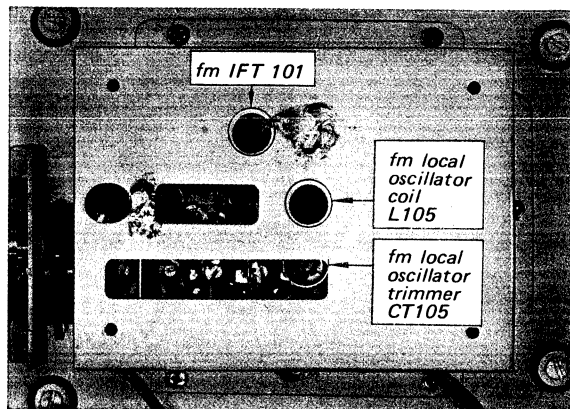
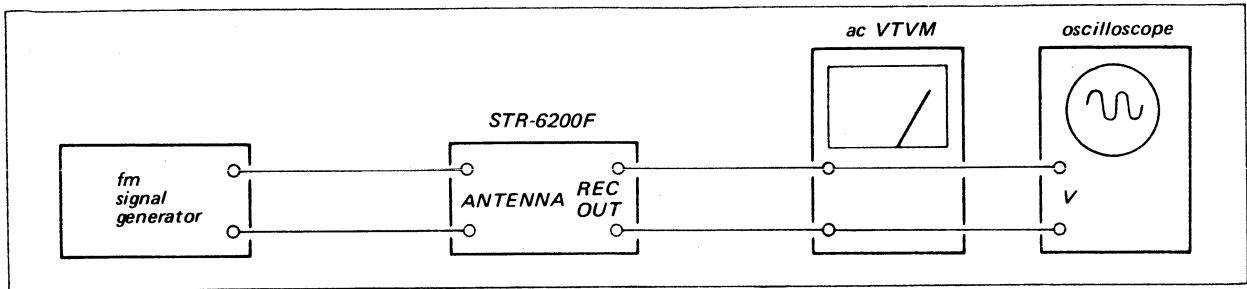

Fig. 3-3 Parts location
Fig. 3-4 Fm i-f, discriminator, muting and front end alignment test setup
1. With the equipment connected as shown in Fig. 3-4, set the signal-generator's controls as follows:
- FUNCTION (2) switch FM
3. Precisely tune the set to the SSG's carrier frequency then turn the core of transformer IFT101 and primary side of discriminator transformer IFT301 (bottom core) (see Figs. 3-3 and 3-6) with the alignment tool to obtain maximum output.
3. Connect the equipment as shown in Fig. 3-4.
2. Check the dial scale for a calibration accuracy of ± 100 kHz from the carrier frequency of the station. If the dial-accuracy deviation exceeds this limit, turn the local-oscillator coil L105 slightly as shown in Fig. 3-3 until optimum dial calibration is obtained.
3. Tune the receiver to the highest-frequency station in your locality. If the dial-calibration error is excessive, adjust local-oscillator trimmer CT105 (see Fig. 3-3) to obtain maximum calibration accuracy.